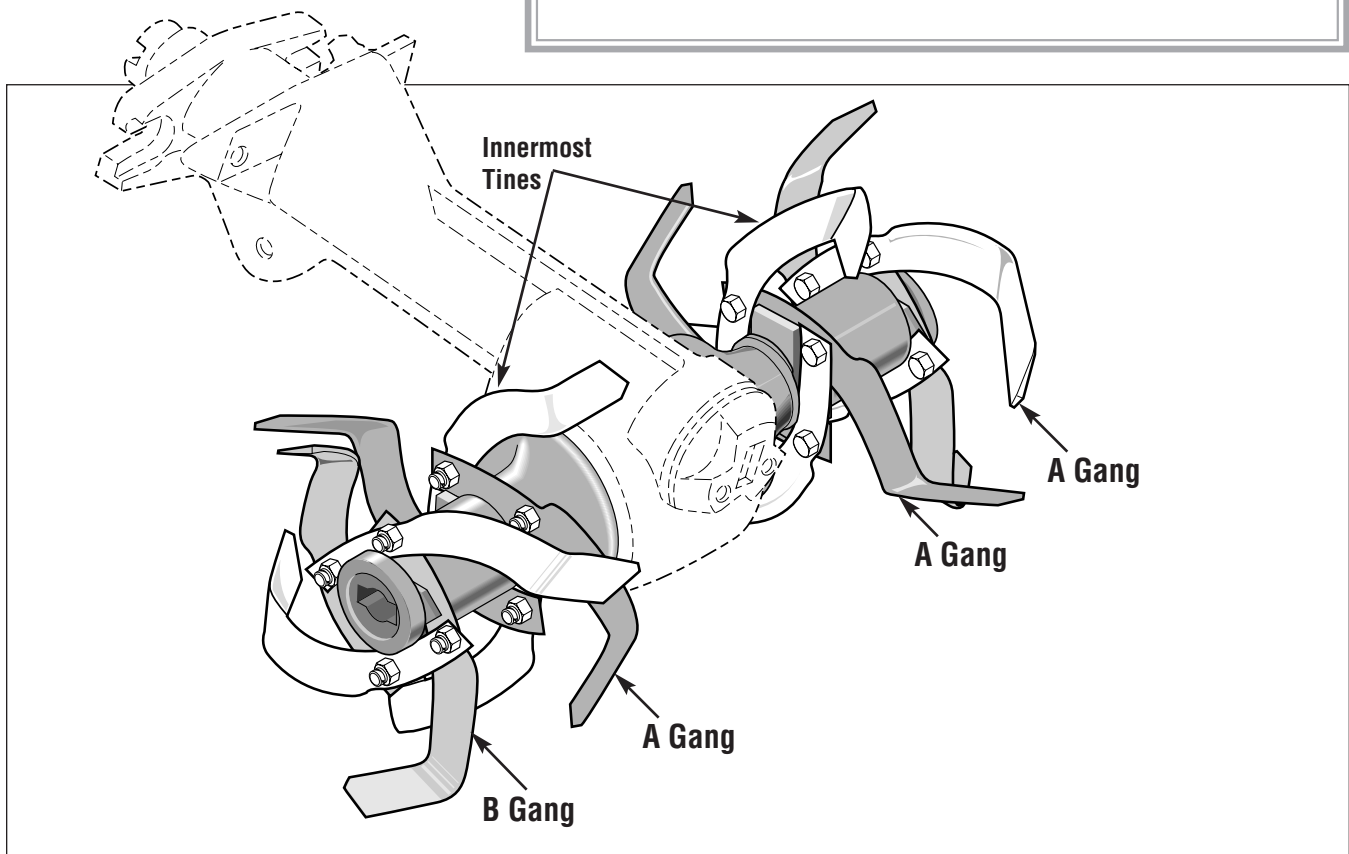

Figure 20: Tines installed on cast iron holders.
E. Install the "B" gang on the left outer holder at position #3 as shown in Figure 20, after following Steps A through C above.
- Make sure that the tips of the four *innermost* tines (on the left and right sides) are directly *opposite* each other and pointing *toward* each other. See Figure 20.